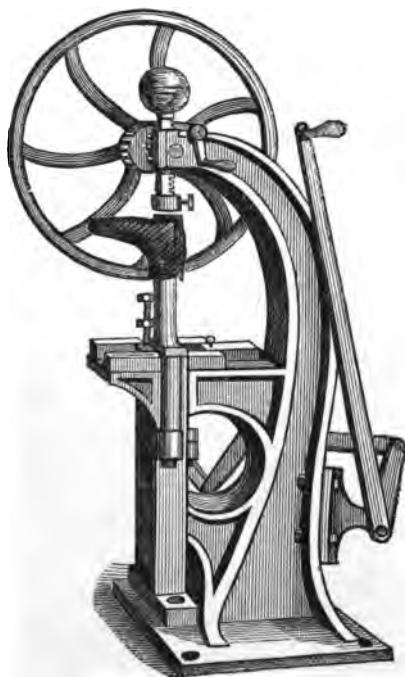

Fig. 91.—INSIDE NAILING MACHINE.
**The Inside Nailing Machine** (Fig. 91) is another machine for attaching heels. It has also a strong frame and has an upright stump formed like the seat of a last, the top part of the stump being perforated with holes through